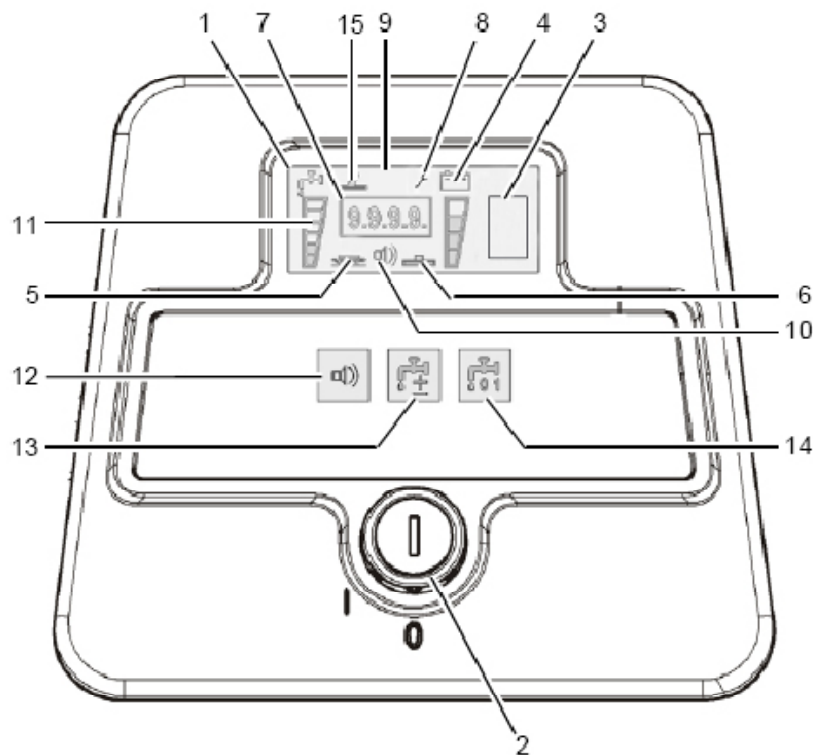

Fig.4
2. Use hand lever (Fig. 4/3) to lower squeegee. Vacuum motor turns on automatically.
5. Use pedal (Fig. 4/9) to lower brush head.
6. Use forward/reverse lever (Fig. 4/1) to adjust speed and direction. Increase the scrub brush pressure if required with pedal (Fig. 4/10) .
Display (Fig. 4/1)
Battery Charge Indicator (Fig. 4/3)
LSD Indicator (Fig. 4/4)
Symbol For Scrub Brush (Fig. 4/5)
Symbol For Vacuum Motor (Fig. 4/6)
Hour Meter (Fig. 4/7)
Service Indicator (Fig. 4/8)
(Fig. 4/10)
(Fig. 4/11)
Clean Water Metering Switch (Fig.4/13)
(Fig. 4/14)
(Fig. 4/15)